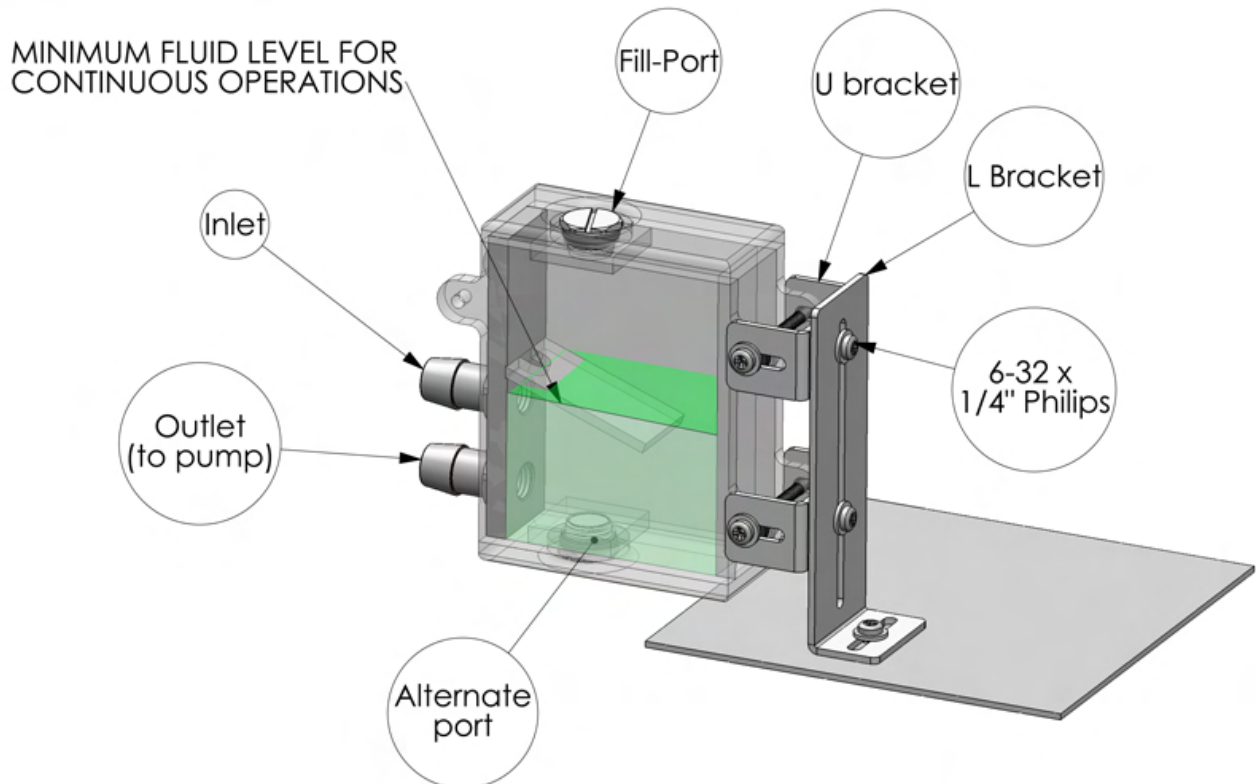

Figure 1
- ❑ Upper side port: "Inlet" as shown in figure 1 is the return line from the system
- ❑ Lower side port: "Outlet (to pump)" shown in figure 1 should always be connected to the pump inlet (directly if possible to facilitate filling of the system)